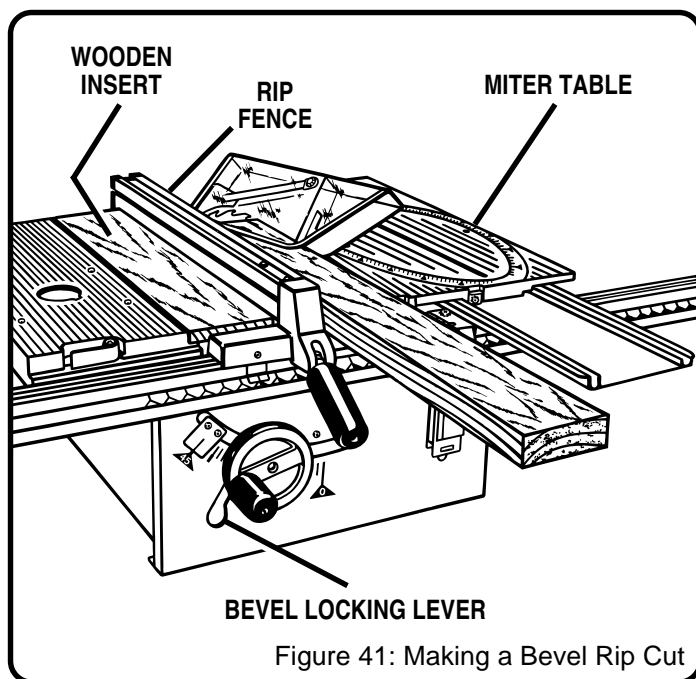

Figure 41: Making a Bevel Rip Cut
See Figure 41.
3. Place the wooden insert between the accessory table and the saw table to support the workpiece. See Figure 41. Secure the wooden insert with screws as noted. Adjust the accessory table firmly against the wooden insert and lock securely.